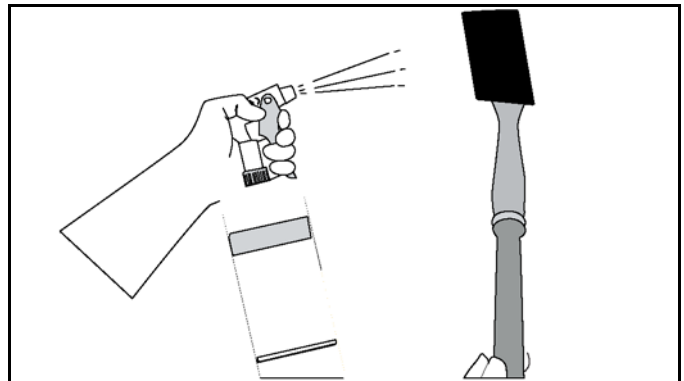

Figure-121
28. Once the platen has raised, put the multi-use tool pad on the multi-use tool. Spray the multi-use tool pad with grill cleaner. See Figure-121.